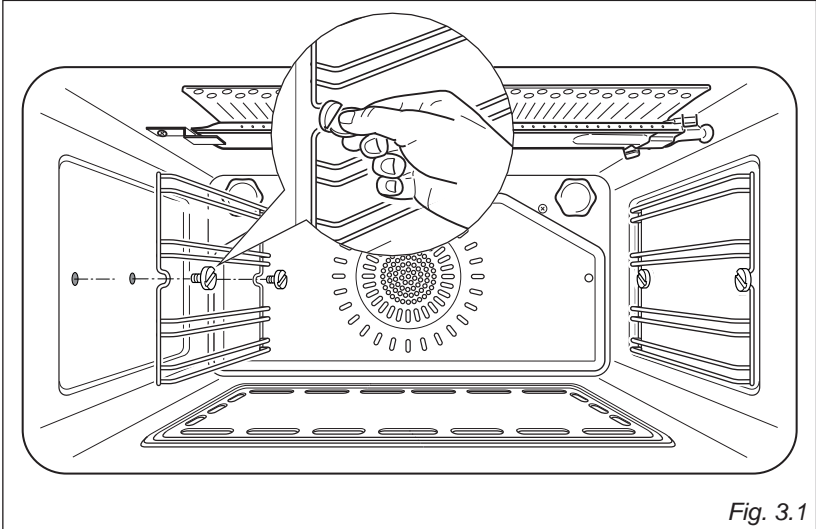

Fig. 3.1
- Assemble the wire racks to the oven walls using the 2 screws (Fig. 3.1).